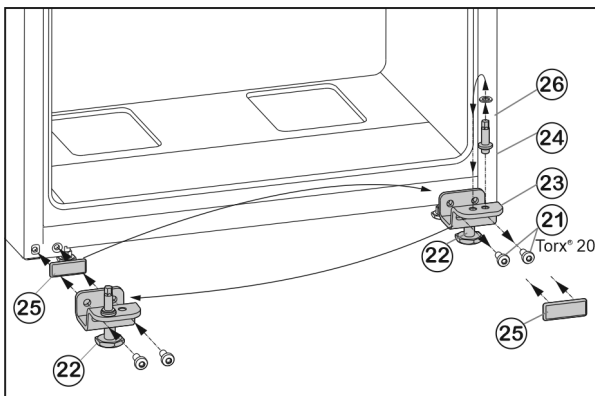

Fig. 7
- ▶ Unscrew fastening screws *Fig. 7 (21)*.
- ▶ Remove the lower bearing block *Fig. 7 (23)*, complete with bearing bolt *Fig. 7 (24)*, washer *Fig. 7 (26)* and adjustable foot *Fig. 7 (22)*.
- ▶ Unscrew the bearing bolt *Fig. 7 (24)*, complete with washer *Fig. 7 (26)*, re-locate it into the mounting hole on the opposite side of the bearing block and tighten again.
- ▶ Carefully remove the cover plate *Fig. 7 (25)* and re-locate it to the other side.
- ▶ Fasten the lower bearing block *Fig. 7 (23)*, complete with bearing bolt *Fig. 7 (24)*, washer *Fig. 7 (26)* and adjustable foot *Fig. 7 (22)* to the new hinge side, with the help of a cordless screwdriver if necessary, and **tighten (with 4 Nm)** once again.
- ▶ Lower the bottom door onto the bearing bolt *Fig. 7 (24)*.
- ▶ Unscrew the adjustable foot *Fig. 7 (22)* on the lower bearing block *Fig. 7 (23)* until it reaches the floor.